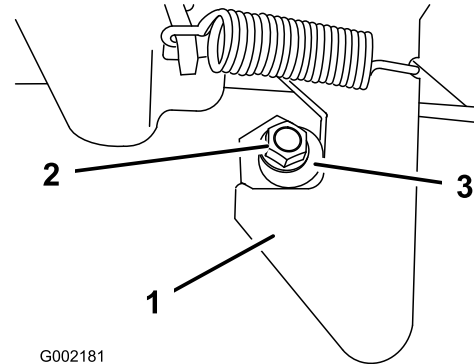

Figure 57
- Loosen the locknut on the end of the latch post (Figure 57).
- Rotate the latch post clockwise until it is snug against the hook portion of the latch (Figure 57).